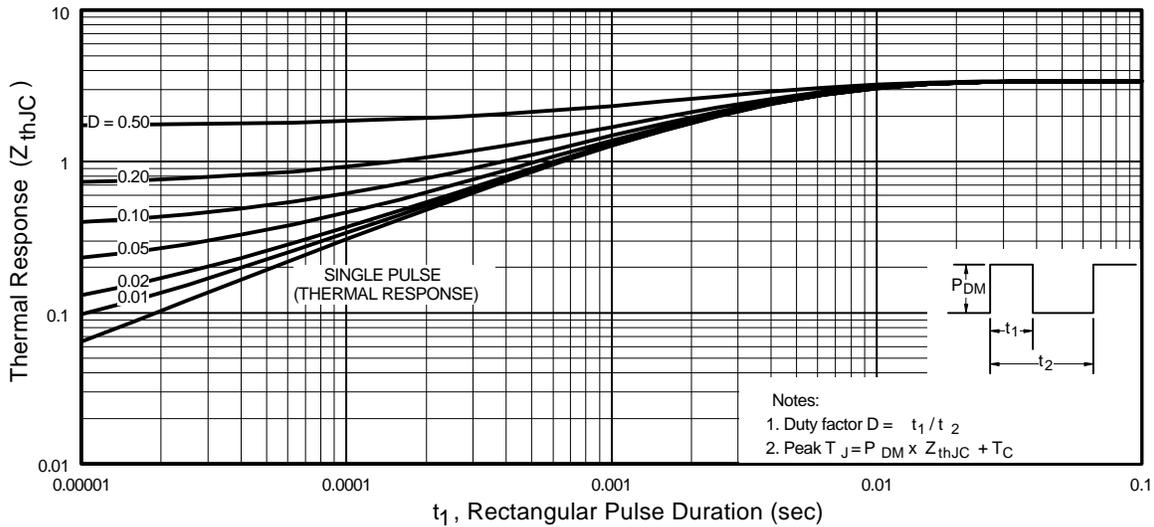

Fig 11. Maximum Effective Transient Thermal Impedance, Junction-to-Case
- ① Repetitive rating; pulse width limited by max. junction temperature. (See fig. 11)
- ② Starting $T_J = 25^\circ\text{C}$, $L = 300\mu H$